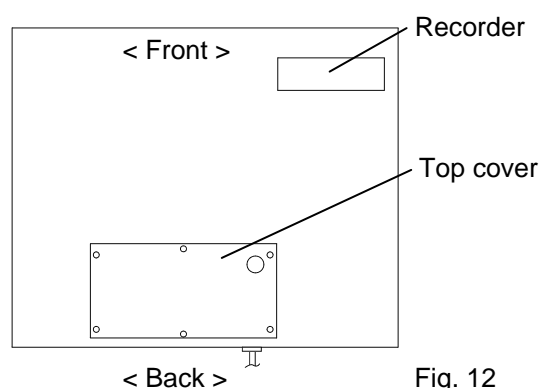

Fig. 12
8. Remove the top cover of the freezer by unscrewing 6 screws. Fig. 12